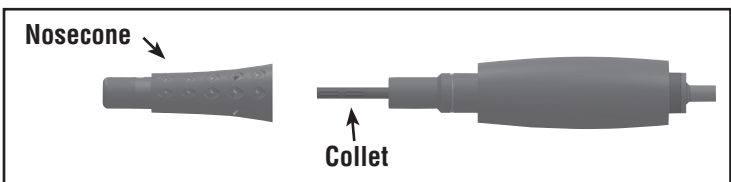

Figure 1
- The nosecone has been properly assembled with the handpiece (Figure 1).